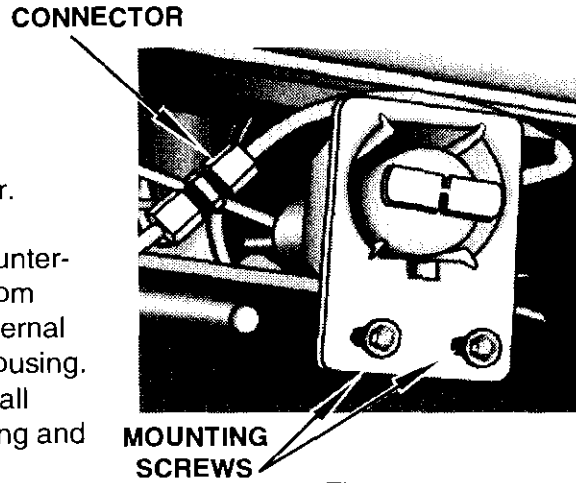
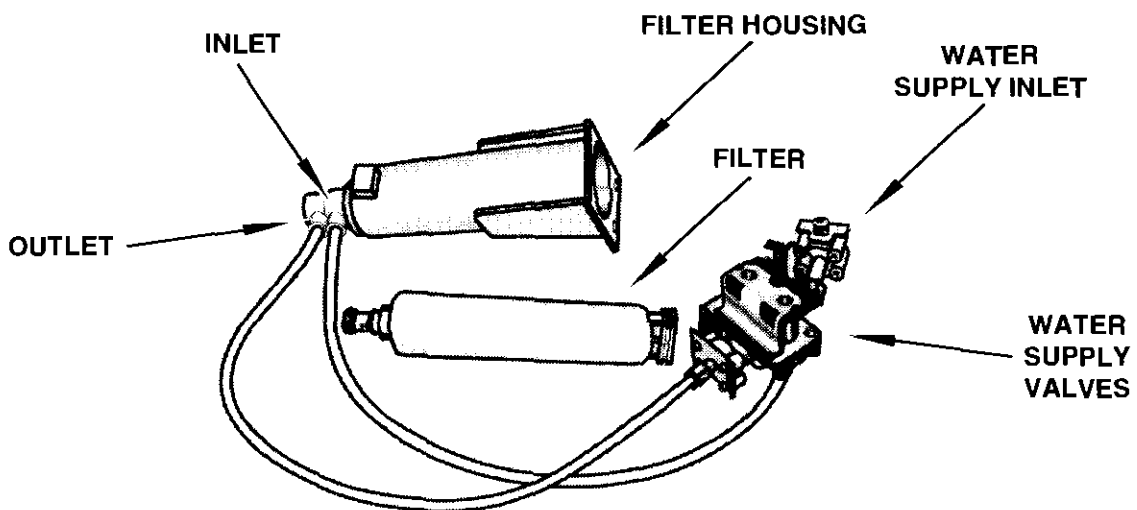

Fig. 7
Fig. 8
The filter housing is located behind the toe panel, and is mounted to the bottom frame rail with two (2) Hex-head screws. (Fig. 7)
3. Remove the two (2) Hex-head screws securing the filter housing to the bottom frame rail.
5. Disconnect the water line connectors. (Fig. 8)
NOTE: When reconnecting the water lines be sure to connect the water supply line to the filter inlet and the water outlet line to the outlet of the filter housing. (Fig. 8)